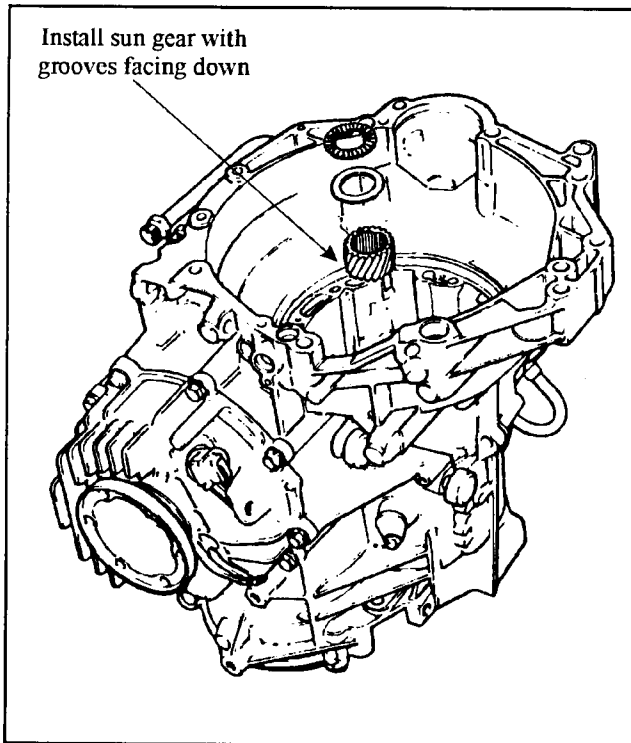

Figure 145
12. Install the small sun gear into the planetary carrier then install the bearing race and torrrington bearing (See Figure 145).